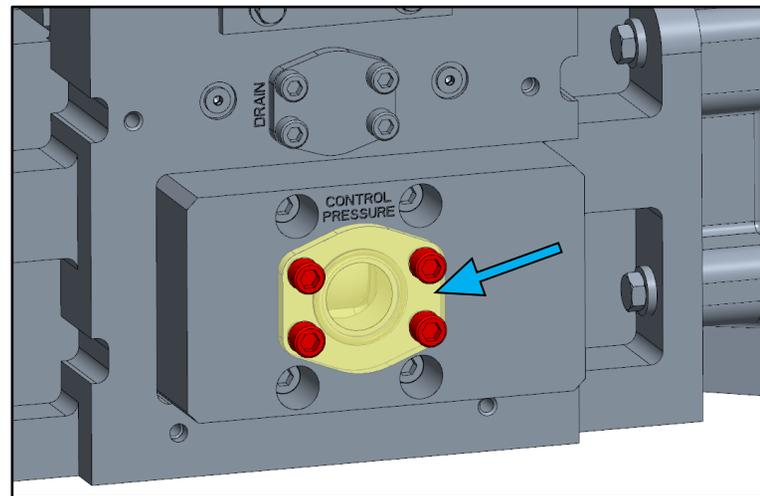

Figure 4-2. VariStroke Isolation Valves Control Port Location
3. Unscrew hydraulic pipe attached to shuttle valve control port (Figure 4-2).